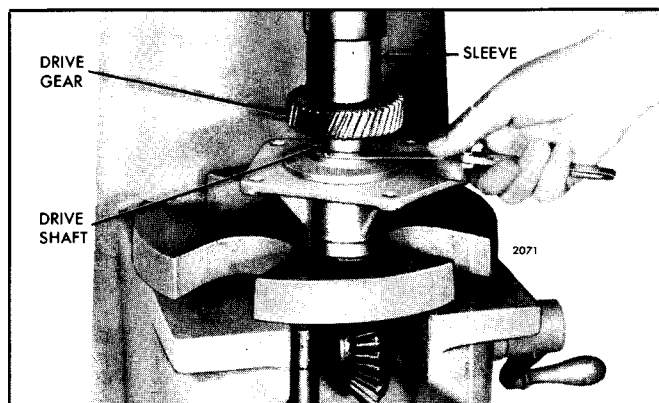

Fig. 5 - Pressing Blower Drive Gear On Shaft
5. Position the gear on the shaft so the keyway in the gear is in alignment with the key in the shaft. Then, place a sleeve on the gear and press the gear on the shaft until the clearance between the gear and support is .004" to .012" (Fig. 5).